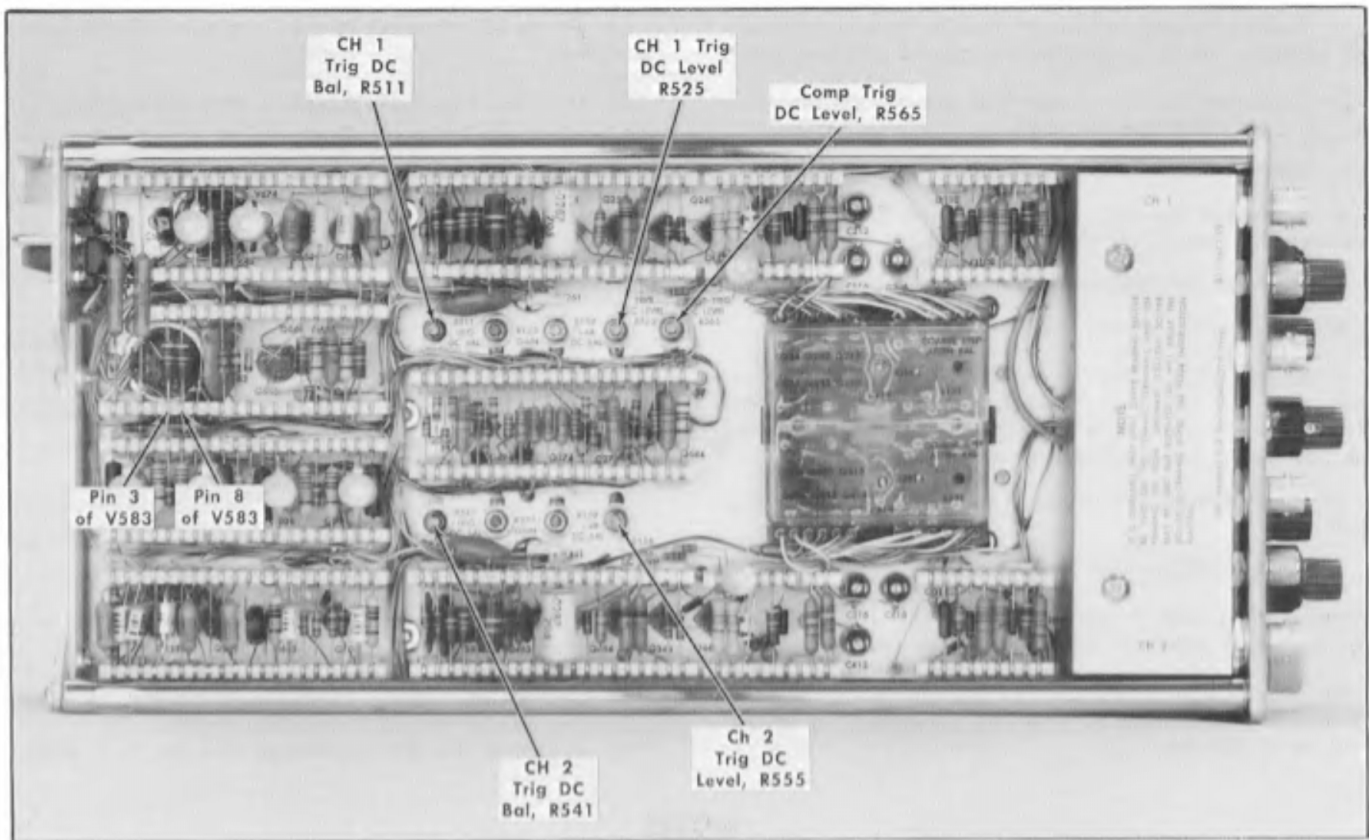

Fig. 6-21. Location of trigger amplifier test points and adjustments.
- f. Disconnect the  $10\times$  probe from ground and connect it to pin 8 of V583; see Fig. 6-21.
- h. Disconnect the  $10\times$  probe from pin 8 of V583 and connect it to pin 3 of V583; see Fig. 6-21.
- k. ADJUST—CH 1 Trig DC Bal R511, (see Fig. 6-21) for a zero potential between pins 3 and 8 of V583. Repeat parts f through j of this step until the check can be met.
- l. Connect the  $10\times$  probe to pin 8 of V583, see Fig. 6-21.
- n. ADJUST—CH 1 Trig DC level, R525, (see Fig. 6-21) for a ground potential indication on the test oscilloscope.
- u. Disconnect the 10X probe from pin 8 of V583 and connect it to pin 3 of V583; see Fig. 6-21.
- x. ADJUST—CH 2 Trig DC Bal R541; (see Fig. 6-21) for a zero potential indication between pins 3 and 8 of V583. Repeat parts s through w of this step until the check can be met on the test oscilloscope.
- y. Connect the 10X probe to pin 8 of V583. See Fig. 6-21.
- aa. ADJUST—CH 2 Trig DC Level, R555, (see Fig. 6-21) for a ground potential indication on the test oscilloscope.
- ag. Disconnect the 10X probe from ground and connect it to pin 3 of V583, see Fig. 6-21.
- ai. ADJUST—Comp Trig DC Level, R565, (see Fig. 6-21) for a ground potential indication on the test oscilloscope.
- aj. Disconnect the 10X probe from pin 3 of V583 and connect it to pin 8 of V583; see Fig. 6-21.